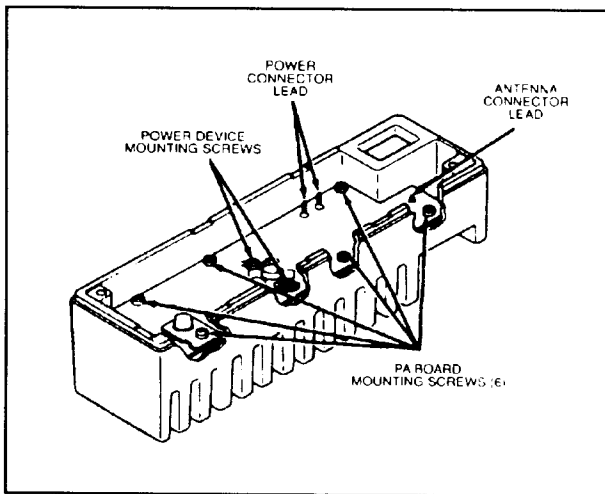

Figure 8.
(2) Unsolder the A+ power connector feed-thru leads and the antenna connector lead (figure 8).
(4) Remove two power device mounting screws and all P.A. board mounting screws (figure 8), and then take out the P.A. board.